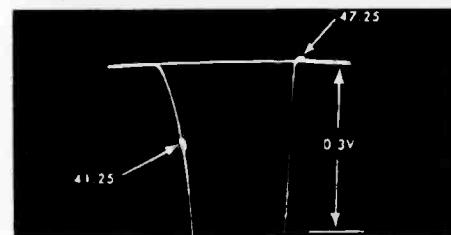

Fig. 8 Expanded View of Traps.
9. Switch the oscilloscope to 10X gain used in the above steps to blow up the trap slots. Adjust the 47.25 Mc trap for maximum attenuation of 47.25 Mc marker. The 41.25 Mc marker should be in the approximate position shown in Fig.8 . On some receivers more oscilloscope gain, more signal input, or lower bias may be necessary to adjust the 47.25 Mc trap. (If the 41.25 Mc marker does not fall at the approximate position shown or nearer the base line, it may be necessary to make a slight re-adjustment of the 2nd IF. If this is done, check the overall response after adjustment).